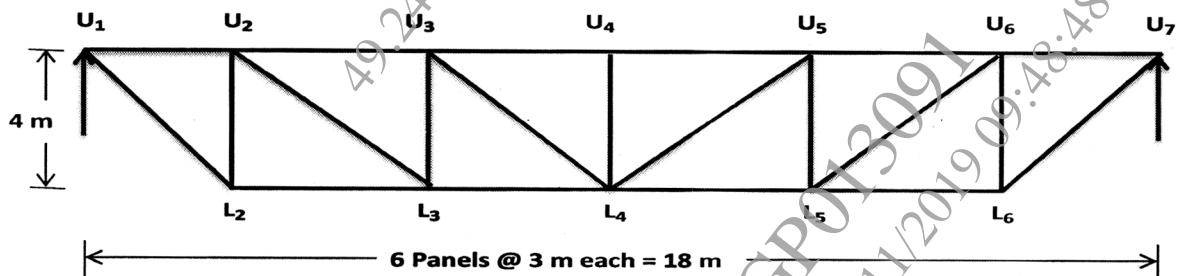

Fig. 8
- (b) Draw the influence line diagrams for the forces in the members U_2U_3 , U_2L_3 and U_2L_2 of the deck type bridge truss shown in Fig. 8. [6]